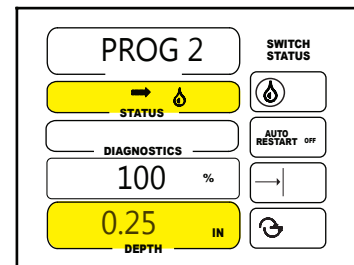

Figure 60-4
3. Set water on and depth of water for the sector. See figure 60-4.